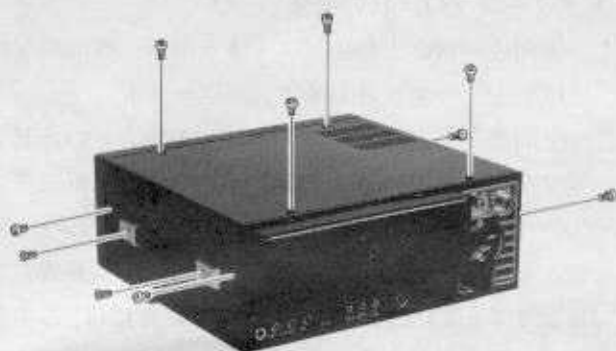

Figure 19
1. Disconnect the transceiver from the power source. Referring to Figure 19, loosen the two carrying handle screws, and remove the two screws on each side of the upper half of the transceiver, and the four screws from the top. Then lift off the top cover.